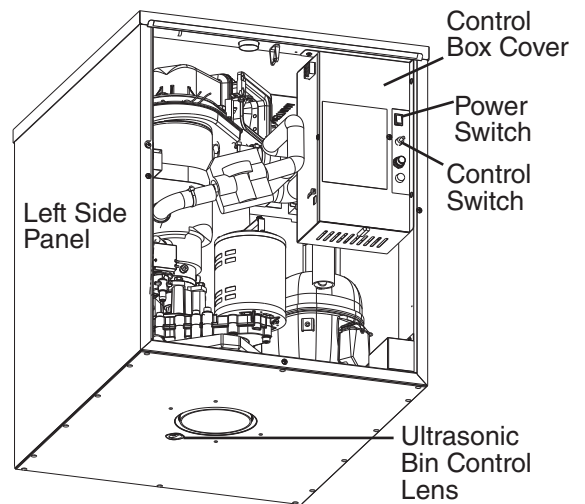
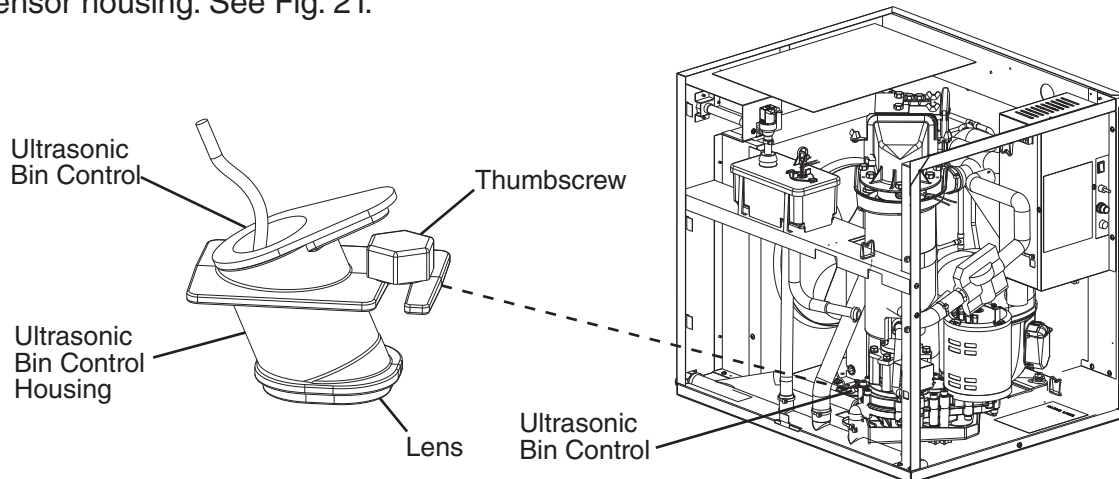

Fig. 20
Fig. 21
- 8) "GM" LED and "COMP" LED are on. Place an object 5" to 7" (127 to 178 mm) away from the bin control lens at the bottom of the icemaker. See Fig. 20. If the bottom of the icemaker is not accessible in your application, remove the thumbscrew securing the bin control sensor housing to the base, then remove the bin control sensor housing. See Fig. 21.